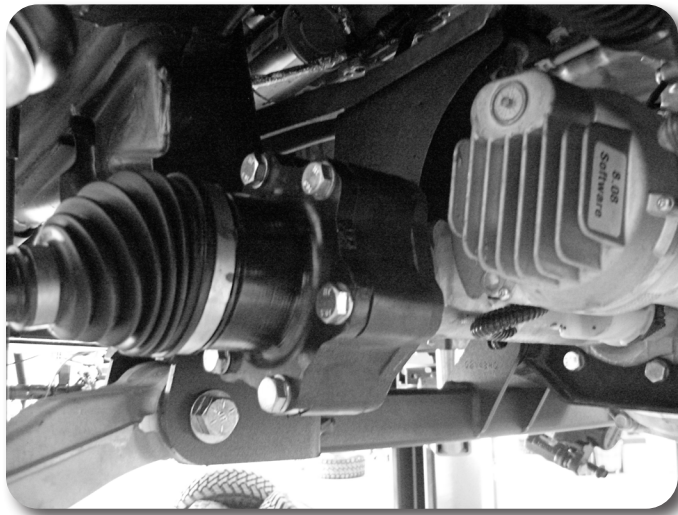

Figure 33
67. Position the provided CV spacer between the CV shaft and the differential mounting flange **Figure 33**. Fasten the CV and spacer to the differential flange with 10mm x 65mm SHCS bolts. Use Loctite on the bolt threads and torque to 45 ft-lbs using a crossing pattern.